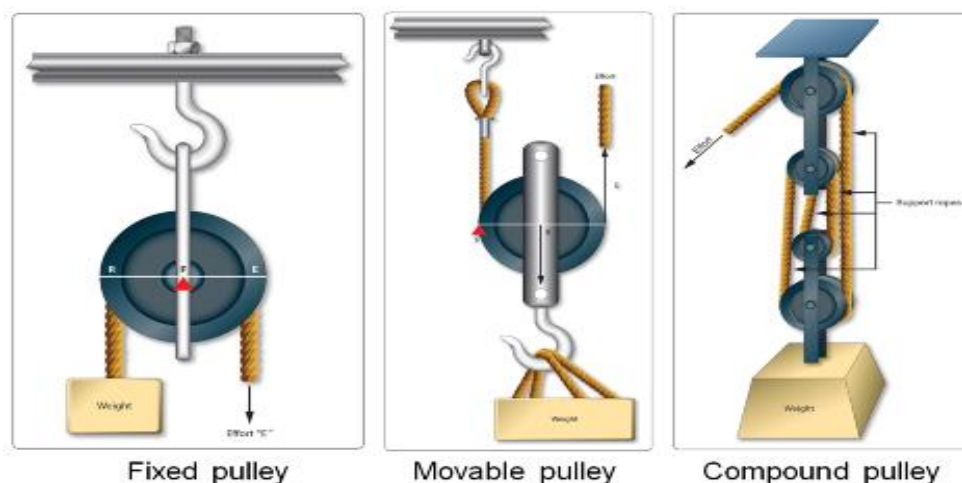

Figure 1.19: A fixed pulley, a movable pulley and a compound pulley
- The velocity ratio of a compound pulley in Figure 1.19 is